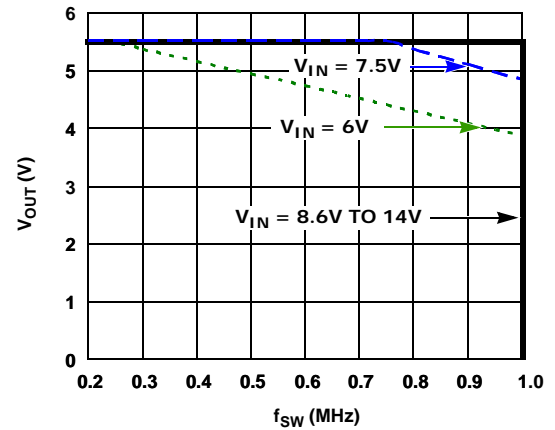

FIGURE 8. SAFE OPERATING AREA, $T_J \leq +125^\circ\text{C}$
- Refer to Safe Operating Area in Figure 8 and thermal design guidelines in AN2010.
- Percentage of Full Scale (FS) with temperature compensation applied.